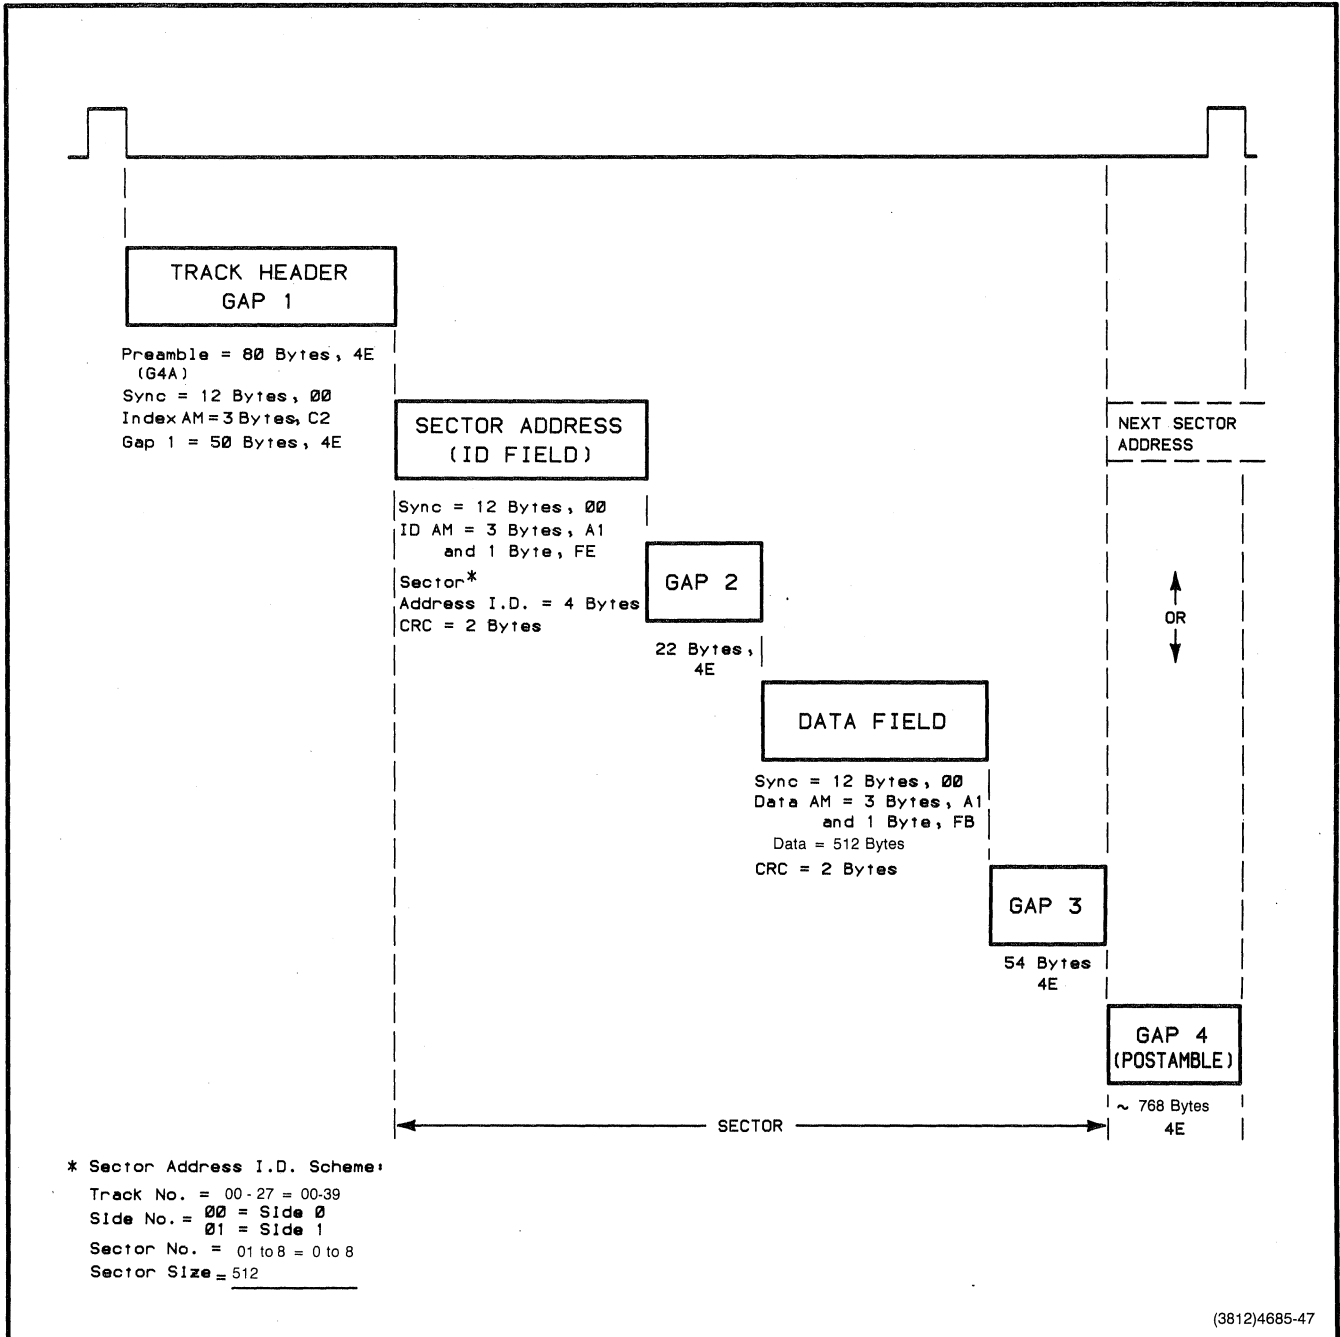

Figure 12-23. Track-Sector Format.
Figure 12-23 shows how a sector is composed of identification (address), synchronization, data, and separator fields. The top line of the figure shows the pulse produced by the disk media index hole passing under the Index Detector. The track header follows this index mark, starting with a total of 92 bytes that allow the read circuitry to synchronize for reading an address or data. This header block contains GAP 1, which separates the track header from the sector address (ID) field.
At this point, the arrangement of gaps and fields is repeated, starting around the next track (Figure 12-23). Each major segment in the track-sector organization is shown as a rectangular box. Each of these segments is then broken down further with its subparts listed under the box. Refer also to Table 12-7 for more information.